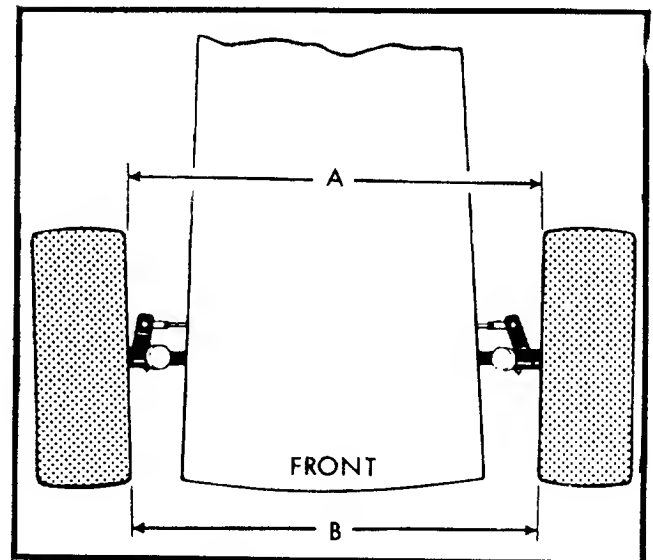

FIGURE 37. TOE-IN
The caster (forward slant of the kingpin) and the camber (tilt of the wheels out at the top) requires no adjustment. Automotive steering principles have been used to determine the caster and camber on the tractor. The front wheels should toe-in $\frac{1}{8}$ inch. To adjust the toe-in, loosen the hex jam nut, remove the elastic locknut, drop the tie-rod end out of the hole in the steering arm and screw the tie-rod end in or out to make the adjustment. The distance "B" must be less than "A" by $\frac{1}{8}$ inch. See figures 37 and 38.
3. Adjust the tie rod assembly for correct toe-in. Dimension "B" should be approximately $\frac{1}{8}$ " less than dimension "A". See figure 37.